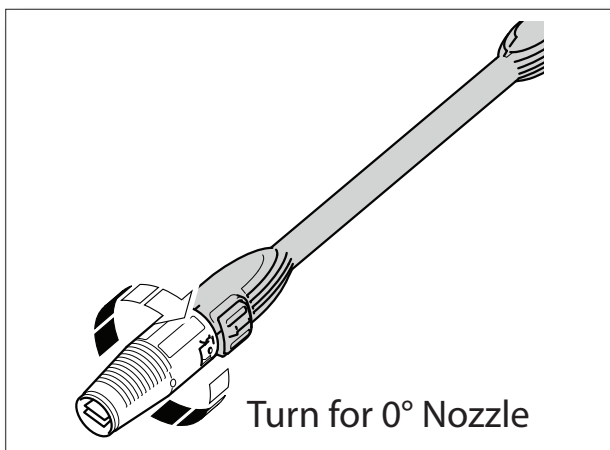
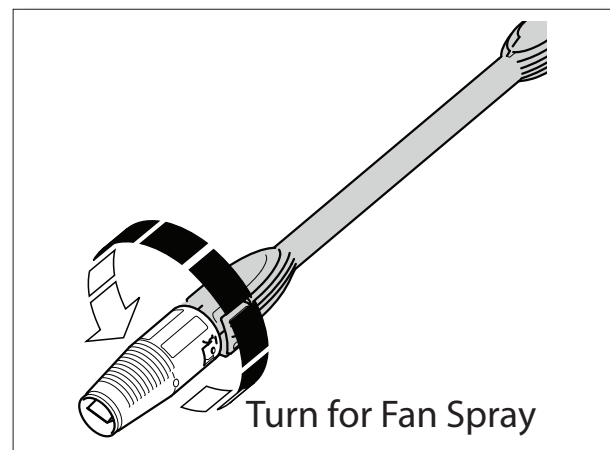

Fig. 10
Fig. 11
- The adjustable spray nozzle can vary between a high pressure, 0° concentrated beam (**Fig. 10**) and a large fan spray with lower pressure (**Fig. 11**). You can also vary between the two for a desired pressure and coverage.